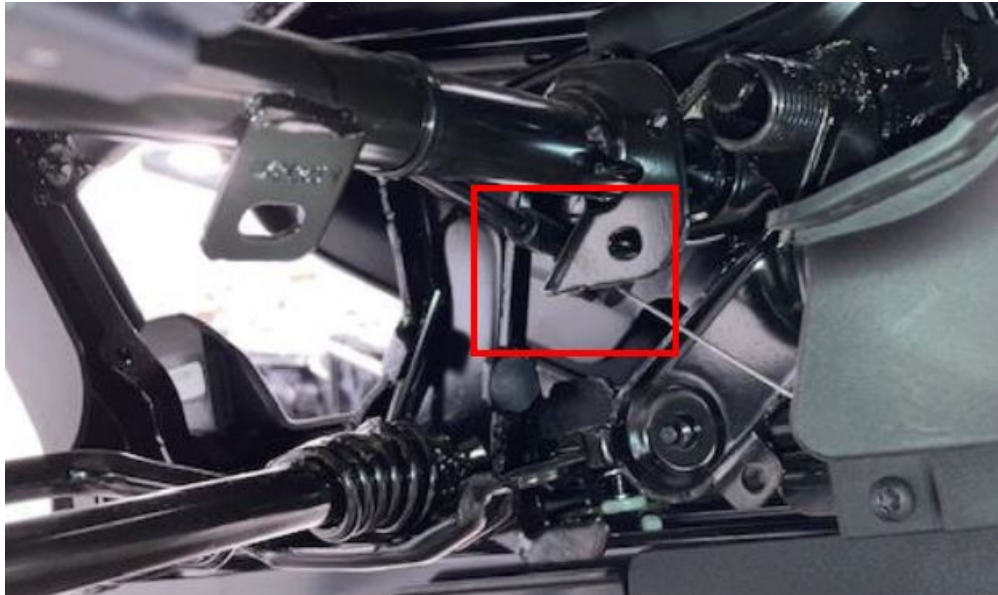

Fig. 9
21. Visually inspect if the plastic cable fitting is properly attached to the seat bracket (Fig. 9) .